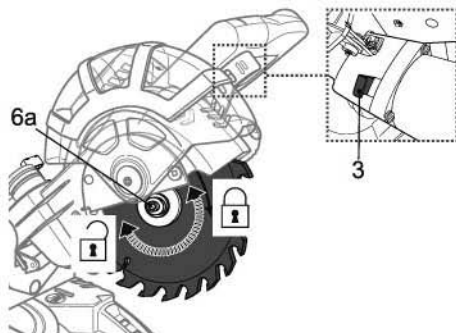

Fig. 58
- Hold the handle (1) firmly and press the on/off switch (20). Allow the saw blade to reach maximum speed (Fig. 58).
- Press the blade guard release lever (2) and slowly lower the blade into and through the workpiece (Fig. 58).